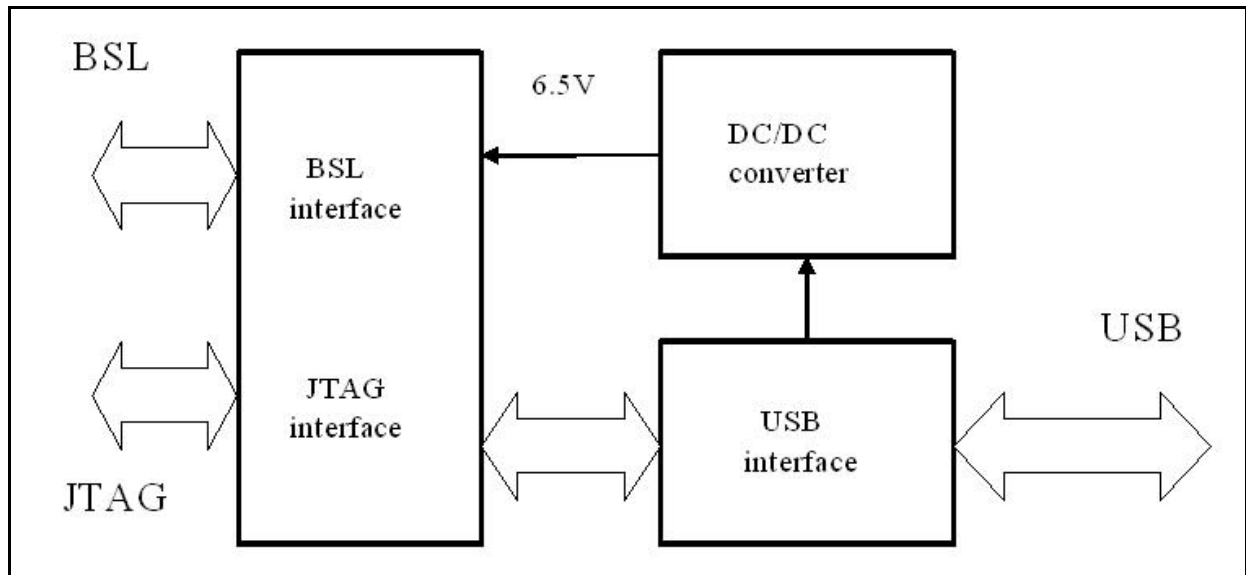

Figure 14-1
**FlashPro430** programming adapter contains an interface for the MSP430F149 microcontroller, a 3.3V low voltage drop regulator, SPST switch to supply Vcc, flat cable with 10 pins socket connector for BSL Interface, 14 pins socket connector for JTAG/SBW/BSL Interface and DB-25 male connector, as shown in figure 14-1.